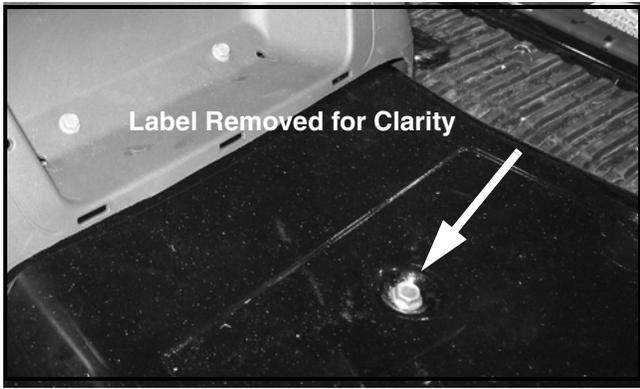

FIGURE 15
36. Under the instruction label, located in the center of the fender's floor pan area, is a screw securing the fender to the frame. Slight pressure on the label will locate the recessed screw. Slice open the label in a cross pattern to expose the screw. Remove the screw. See Figure 15.